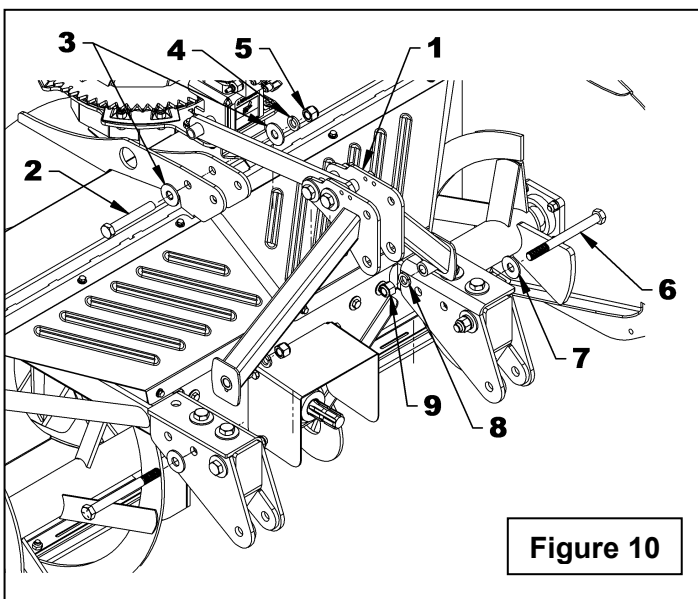

Figure 10
- Figure 10:** Remove the upper assembly of the 3 point hitch (item 1) by removing the 3/4"NC x 5" hex bolts (item 2), two 3/4" flat washers (item 3), the 3/4" lockwashers (item 4) and the 3/4" nylon insert locknuts (item 5). Take apart from the lower arm by removing also the two 3/4"NC x 8" hex bolts (item 6), four 3/4" flat washers (item 7), two 3/4" lockwashers (item 8) and two 3/4" nylon insert locknuts (item 9).